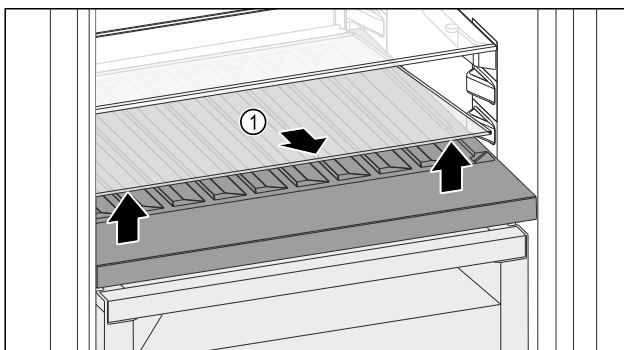

Fig. 123
- ▶ Lift the glass shelf Fig. 123 (1) at the front and remove.
- ▶ Store the glass shelf Fig. 123 (1) in a safe place outside the appliance.